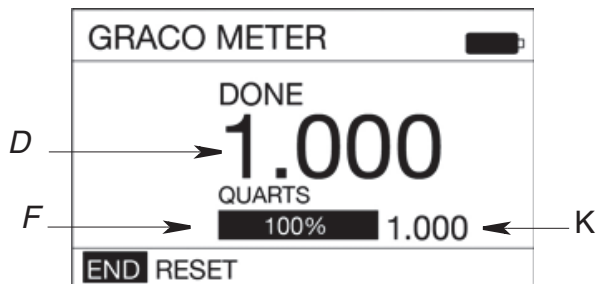

FIG. 33
5. The screen shown in FIG. 33 displays. Notice the word “DONE” near the top of the screen, confirming the requested PRESET amount of fluid has been dispensed. The progress bar (F) now is entirely filled in and shows 100% of the fluid requested has been dispensed and the Dispensed Fluid Counter (D) now shows 1.000 matching the chosen PRESET parameters (K).